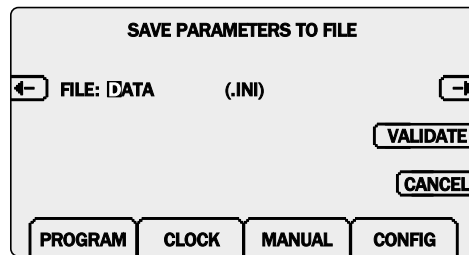

Figure 13 File Name
- 3 If the code is correctly entered the options RETRIEVE DATA and BACKUP DATA should appear (Figure 13). Press the RETRIEVE DATA key.
- 3) If the code is correctly entered the options RETRIEVE DATA and BACKUP DATA should appear (Figure 13). Press the RETRIEVE DATA key.